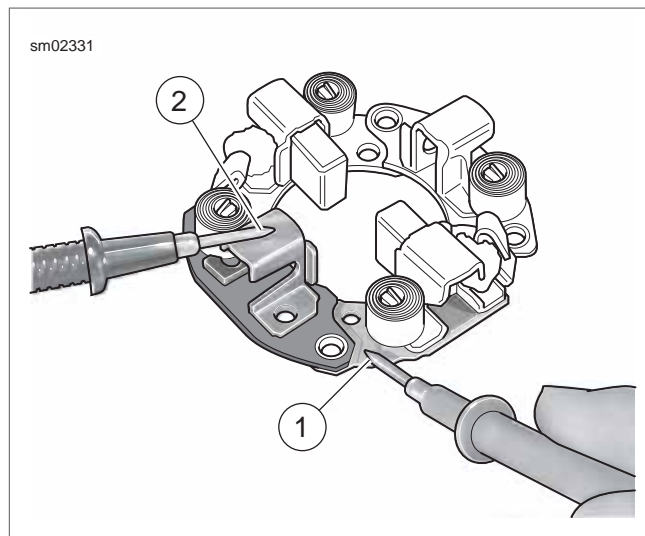

Figure 3-15. Brush Holder Insulation Test
5. See Figure 3-15. Test the BRUSH HOLDER INSULATION with an ohmmeter or continuity tester.